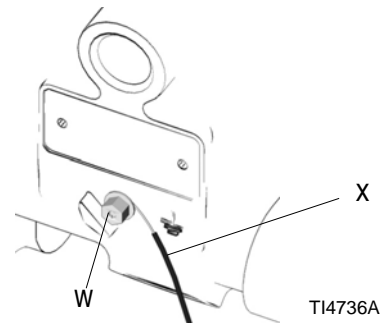

FIG. 1: Ground Wire Connection
- *Pump:* Connect a ground wire and clamp as shown in FIG. 1. Loosen the grounding screw (W). Insert one end of a 1.5 mm² (12 AWG) or thicker ground wire (X) behind the grounding screw and tighten the screw securely. Connect the clamp end of the ground wire to a true earth ground.